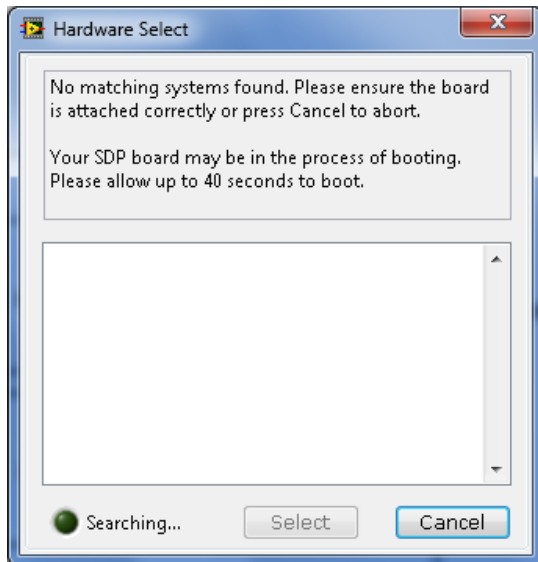

Figure 14. Connectivity Error Alert
2. If the EVAL-AD7403FMCZ evaluation board is not connected to the USB port via the EVAL-SDP-CH1Z when the software is launched, a connectivity error displays (see Figure 14). Connect the evaluation system to the USB port of the PC and wait a few seconds, and then click **Rescan** and follow the instructions.